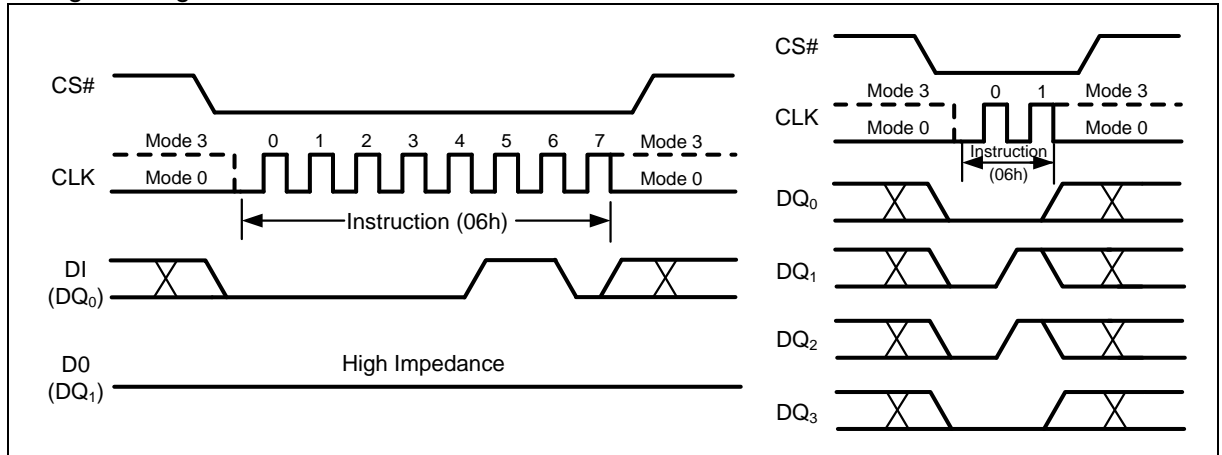

Figure 7 Write Enable Instruction for SPI Mode (left) or QPI Mode (right)
Instructions vary in length from a single byte to several bytes and may be followed by address bytes, data bytes, dummy bytes (don't care), and in some cases, a combination. Instructions are completed with the rising edge of edge CS#. Clock relative timing diagrams for each instruction are included in Figure 7 through Figure 66. All read instructions can be completed after any clocked bit. However, all instructions that Write, Program or Erase must complete on a byte boundary (CS# driven high after a full 8-bits have been clocked) otherwise the instruction will be ignored. This feature further protects the device from inadvertent writes. Additionally, while the memory is being programmed or erased, or when the Status Register is being written, all instructions except for Read Status Register will be ignored until the program or erase cycle has completed.
The Write Enable (WREN) instruction (Figure 7) sets the Write Enable Latch (WEL) bit in the Status Register to a 1. The WEL bit must be set prior to every Page Program, Quad Page Program, Sector Erase, Block Erase, Chip Erase, Write Status Register and Erase/Program Security Sectors instruction. The Write Enable (WREN) instruction is entered by driving CS# low, shifting the instruction code “06h” into the Data Input (DI) pin on the rising edge of CLK, and then driving CS# high.